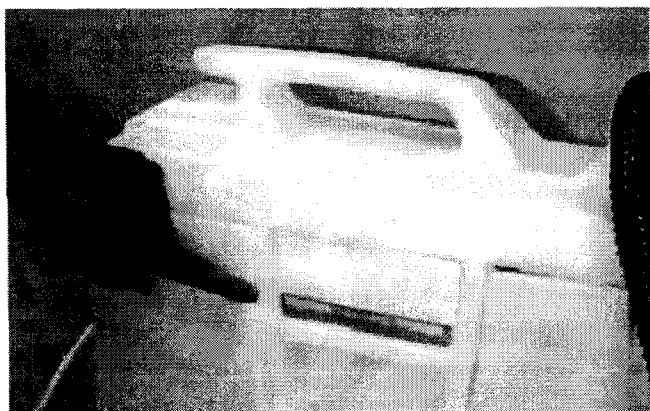

FIG. 6.
3. Check recovery level periodically. When recovery level reaches "FULL LINE" label on recovery tank, shut machine off and empty tank. (Figure 6.)